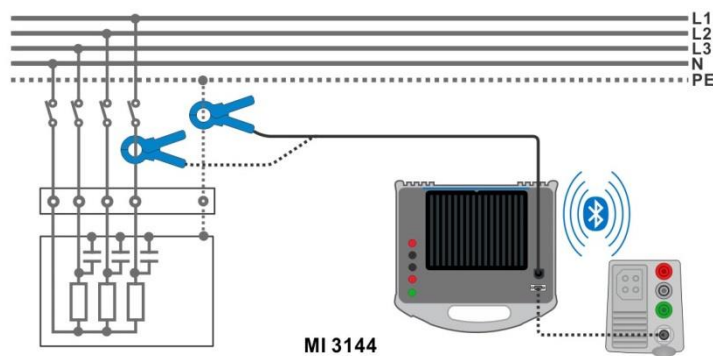

Figure 7.115: Current Clamp Meter measurement
- › Wrap the object under test with the measuring clamp. See **Figure 7.115**. Refer to *MI 3144 Euro Z 800 V Instruction manual* for detailed information.